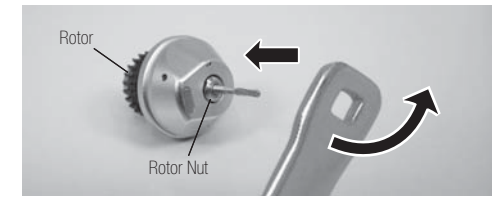

Fig. 18
- 2) Hold the rotor with two fingers as shown in Fig.18. Mount the Wrench provided on the rotor nut located on the top of the rotor shaft and turn counterclockwise (either side of the wrench can be used.)